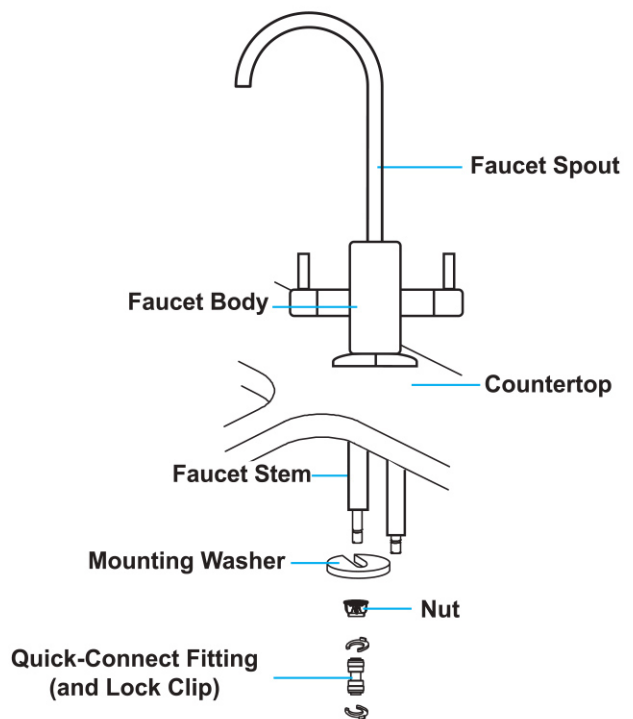

Figure 5
3. Under the sink, slip on other parts in the order shown in the picture (Figure 5);